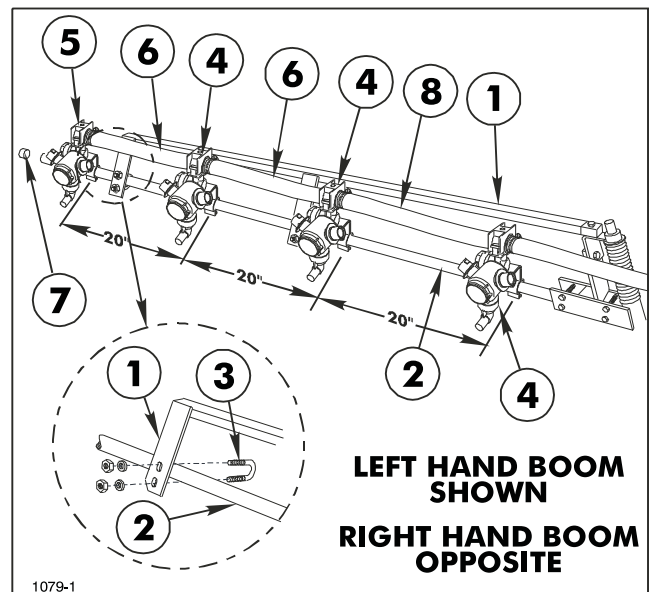

FIG. 16
15. Secure the two plates of the Boom Support Assembly to the Extension Boom Pipe, using two (2) 1/4" U-bolts, four (4) lock nuts and flat washers. See FIG. 16.
18. Attach three Double Barb Turret Bodies and one Single Barb Turret Body with Clamp Assemblies on each Extension Boom Pipe as shown in FIG. 16.
19. Level Nozzles and space 20" apart. Connect the Turret Body Assemblies with 3/4" x 19" Jumper Hoses and a 3/4" x 21" Jumper Hose. Secure with hose clamps. (See FIG. 16.)
27. Attach a 3/4" x 50" hose to L.H. Ball Valve and secure with hose clamp. Route hose under Spacer Tube between Boom Frame and Boom Mount toward L.H. Extension Boom. See FIG. 13 & 17. Mark Hose and cut to proper length. Attach hose to Double Barb Turret on inside of L.H. Extension Boom using hose clamp. See FIG 16. Repeat for R.H. Extension Boom.